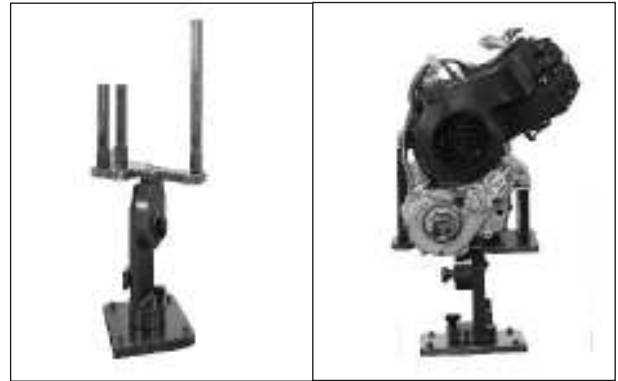

Fig. 1.3
- Mount the engine on engine fixture as shown in the figure. Lock the engine at different orientation by using Knob. (Fig. 1.3)